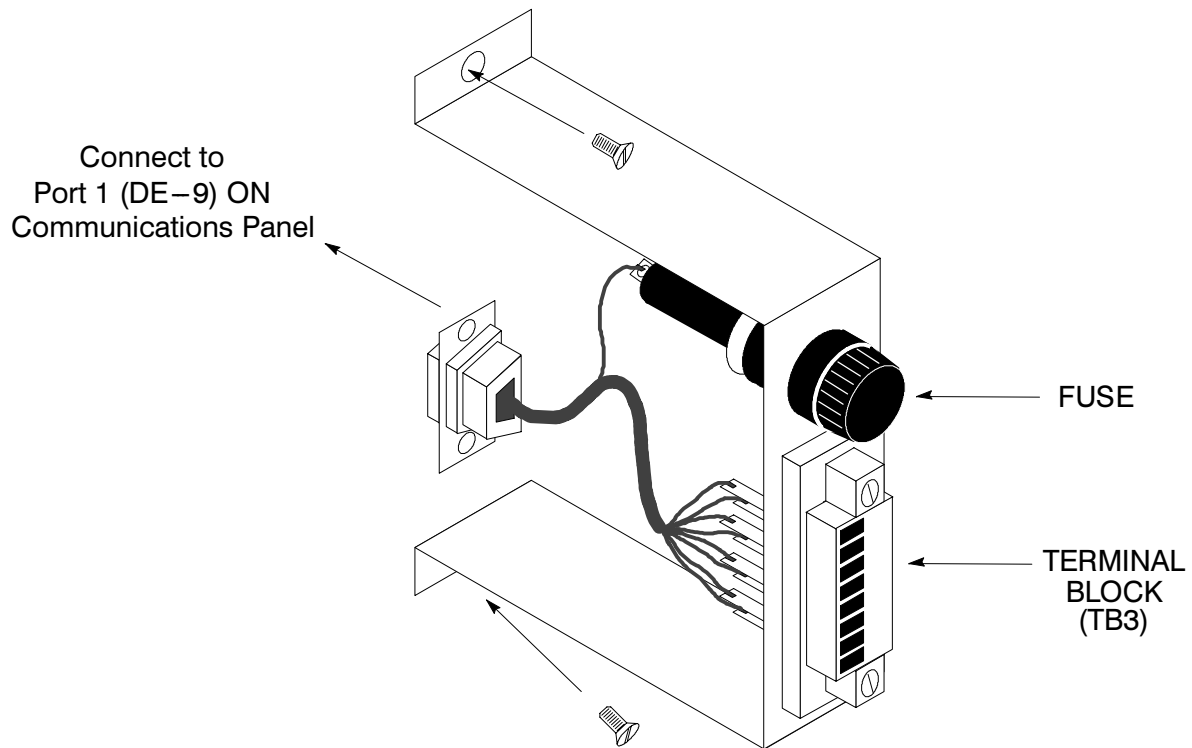

Figure 27. Terminal Block Bracket
3. If not already installed, locate the RMP adapter cable assembly (see Figure 27) in the spare parts kit. Mate the DE–9 connector on the back of the terminal block into the DE–9 connector on the Communications Panel of the UPS (see Figure 28). Use two screws from the spare parts kit to secure the terminal block bracket to the Communications Panel.